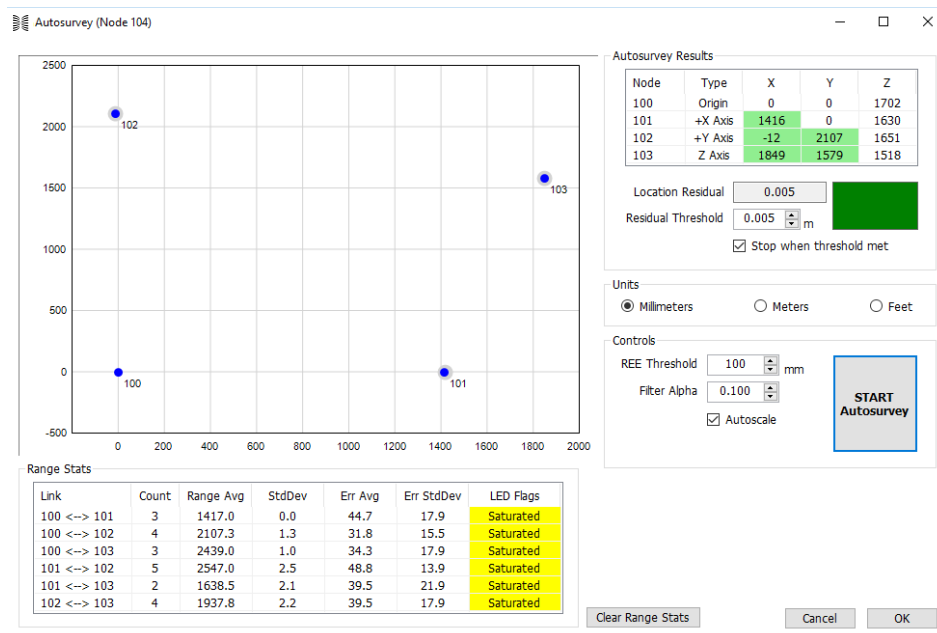

Fig. 23: Successful completion of Autosurvey
6. **Execute Autosurvey.** Click the **Autosurvey** button and then the large **Start Autosurvey** button. This starts the Autosurvey process and you will see that many numbers are updating. If you are in a pristine environment, the process will complete in less than 10 seconds. See **Figure 23** for a representative result.